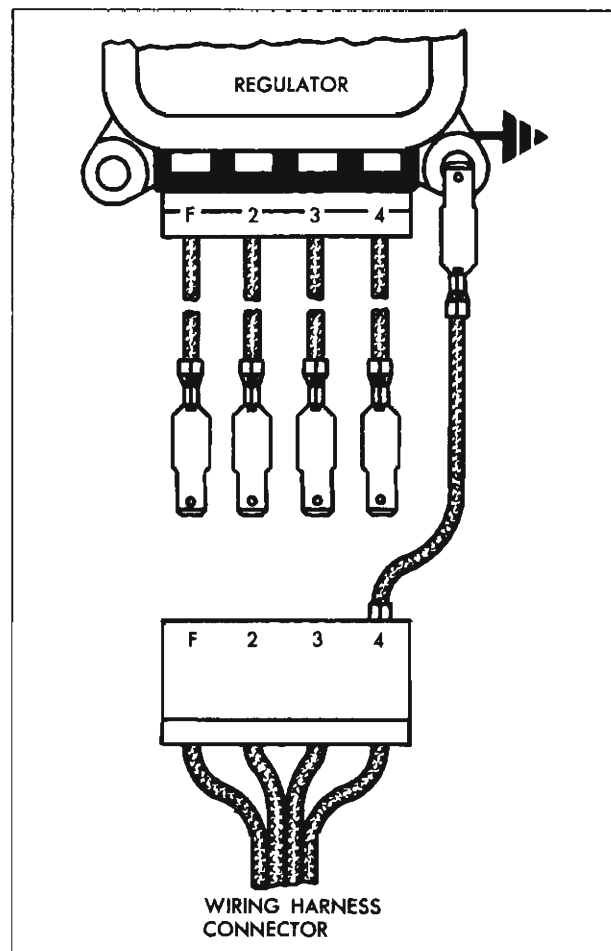

Fig. 6—Checking Indicator Lamp Circuit
2. Momentarily (maximum of 10 seconds) connect a jumper lead from the wiring harness to ground as shown in Figure 6.